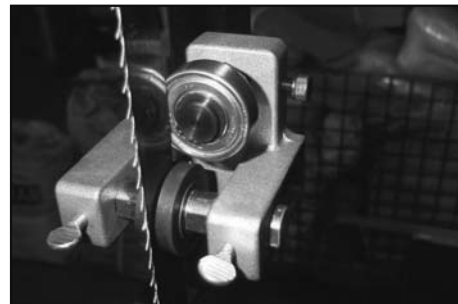

Fig. 10
1. Set the bearing of upper & lower blade guide to within approx. 0.5mm of the blade, make sure the bearing the back of the blade approx. 0.5mm. (Fig.10,11) see follow instruction.(AA,BB)